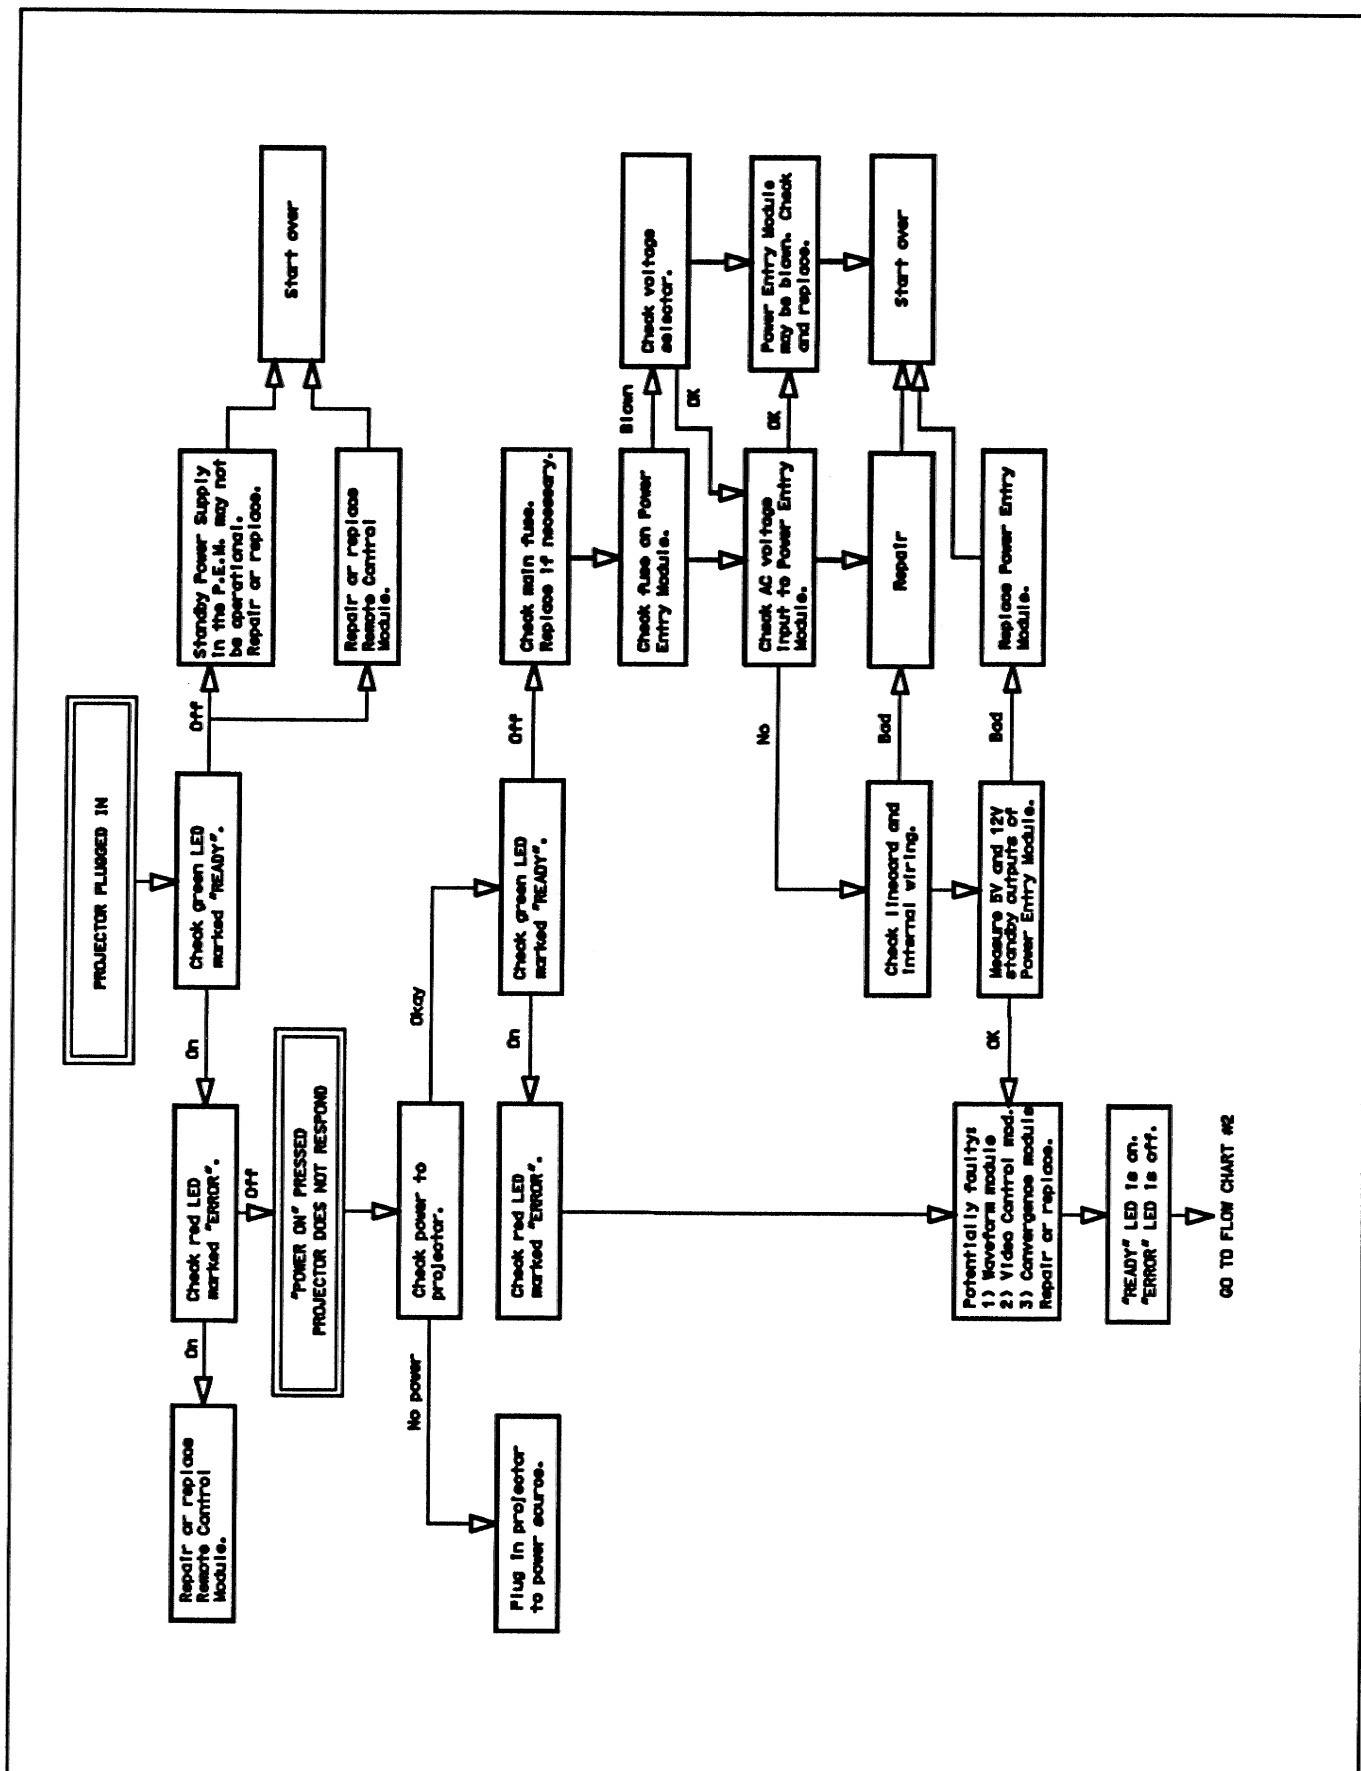

FIGURE 6-1. Flow Chart #1
- ② *Troubleshooting Flow Charts* (Figures 6-1 to 6-5)